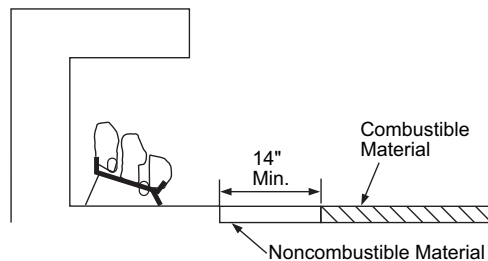

Figure 8 - Minimum Fireplace Clearances If Installed at Floor Level
- If installing appliance on the floor level, you must maintain the minimum distance of 14" to combustibles (see **Figure 8**).